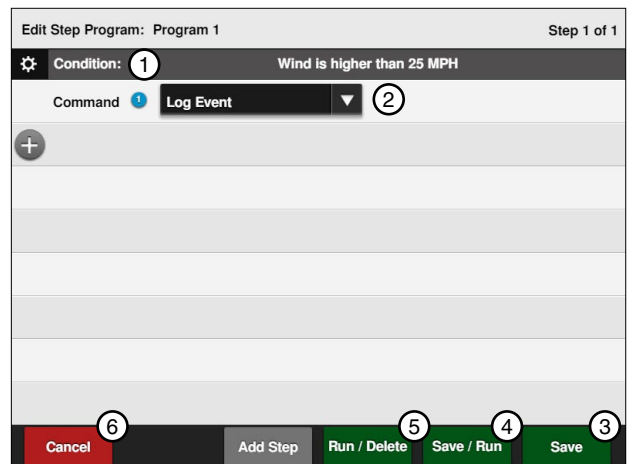

Figure 119-2 1. Wind Condition
4. Enter the command to be executed when wind speed is higher than 25 mph. Refer to Figure 119-2.
5. Finish the program by selecting one of the following. Refer to Figure 119-2.